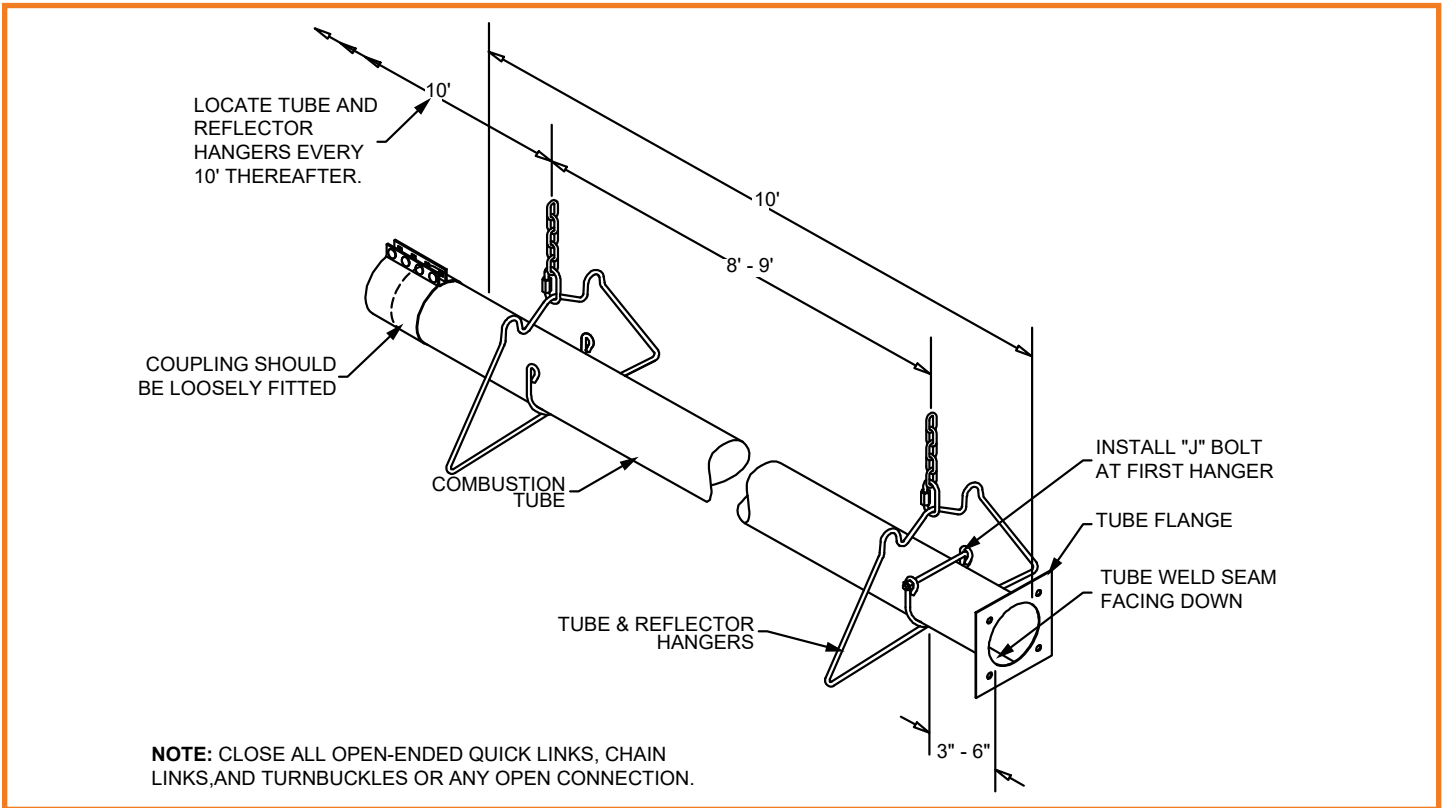

Figure 9: Installation of First Section of Flanged Tube
- Place the first (flanged, aluminized) tube in the first two hangers (Figure 9). Be sure the flange is toward the intended burner location. The other end of the tube should have the first coupling already loosely fitted.
- Always use all the hangers supplied. As a rule the combustion tube (first tube) utilizes 2 hangers and thereafter 1 hanger per 10' section. It is required that the first hanging point be 3" to 6" from the burner mounting flange, and tube weld seam must face down, refer to Figure 9 for more details.